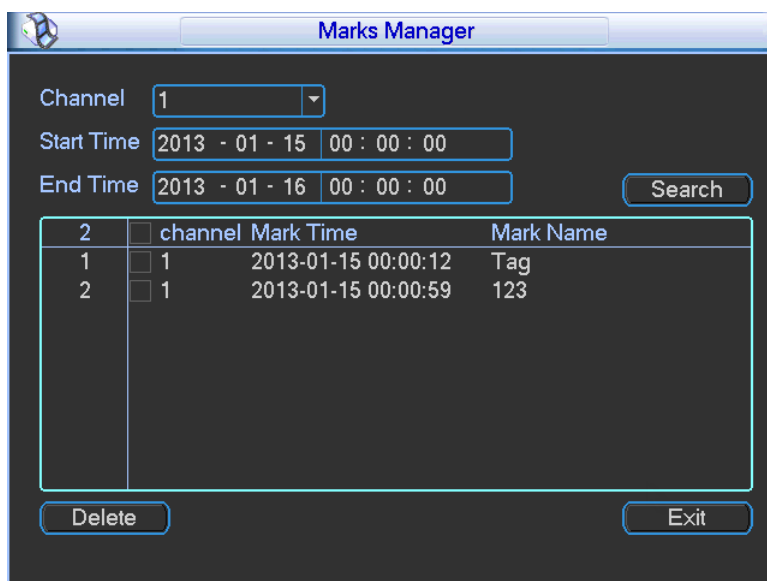

Figure 2-13
- Click the **Marks Manager** button  on The Mark File List interface. The Mark Manager screen opens, as shown in Figure 2-13.